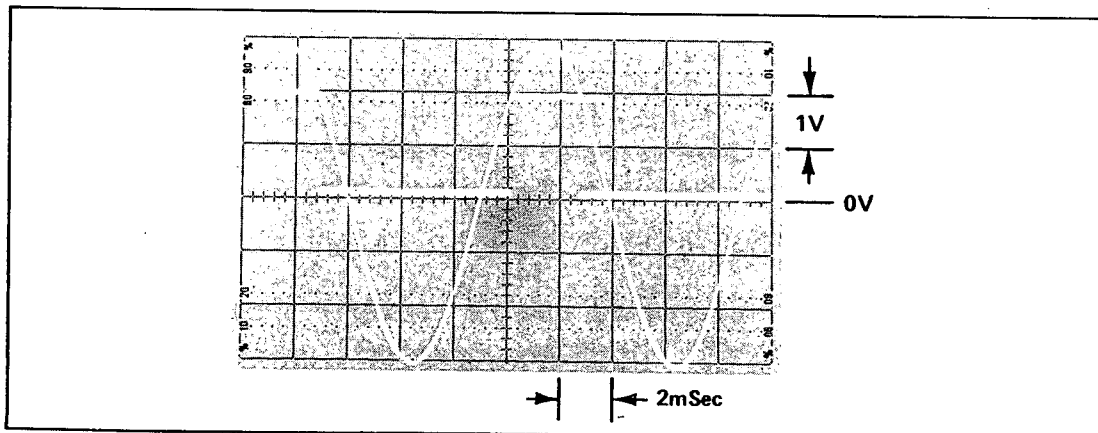

Figure 4-24. Triggering Level Test Waveforms — II
- i. Adjust the Oscilloscope's Channel "B" controls so the top of the Model 5328B's Channel "B" MARKER OUTPUT waveform just barely intersects the positive-slewing and negative-slewing portions of the 100 Hz sine wave as shown in Figure 4-24. Verify that this occurs at +2 volts on the 100-Hz sine wave.